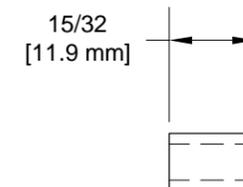

FIGURE 4: ROLL SERVO STANDOFF
Step 4: Fabricate one CS-00020 Roll Servo Standoff from AT6-058X5/16 aluminum tube as shown in Figure 4.